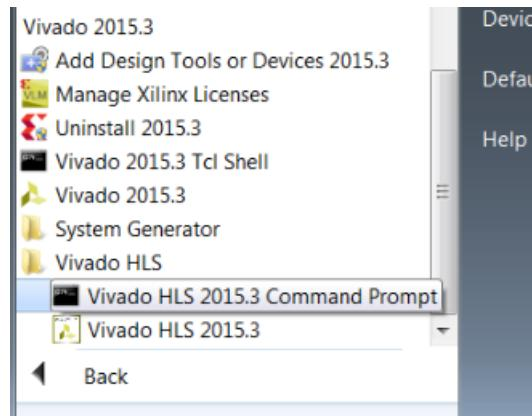

Figure 5-1: Vivado HLS Command Prompt
- a. On Windows use **Start > All Programs > Xilinx Design Tools > Vivado 2015.3 > Vivado HLS > Vivado HLS 2015.3 Command Prompt** (Figure 5-1).